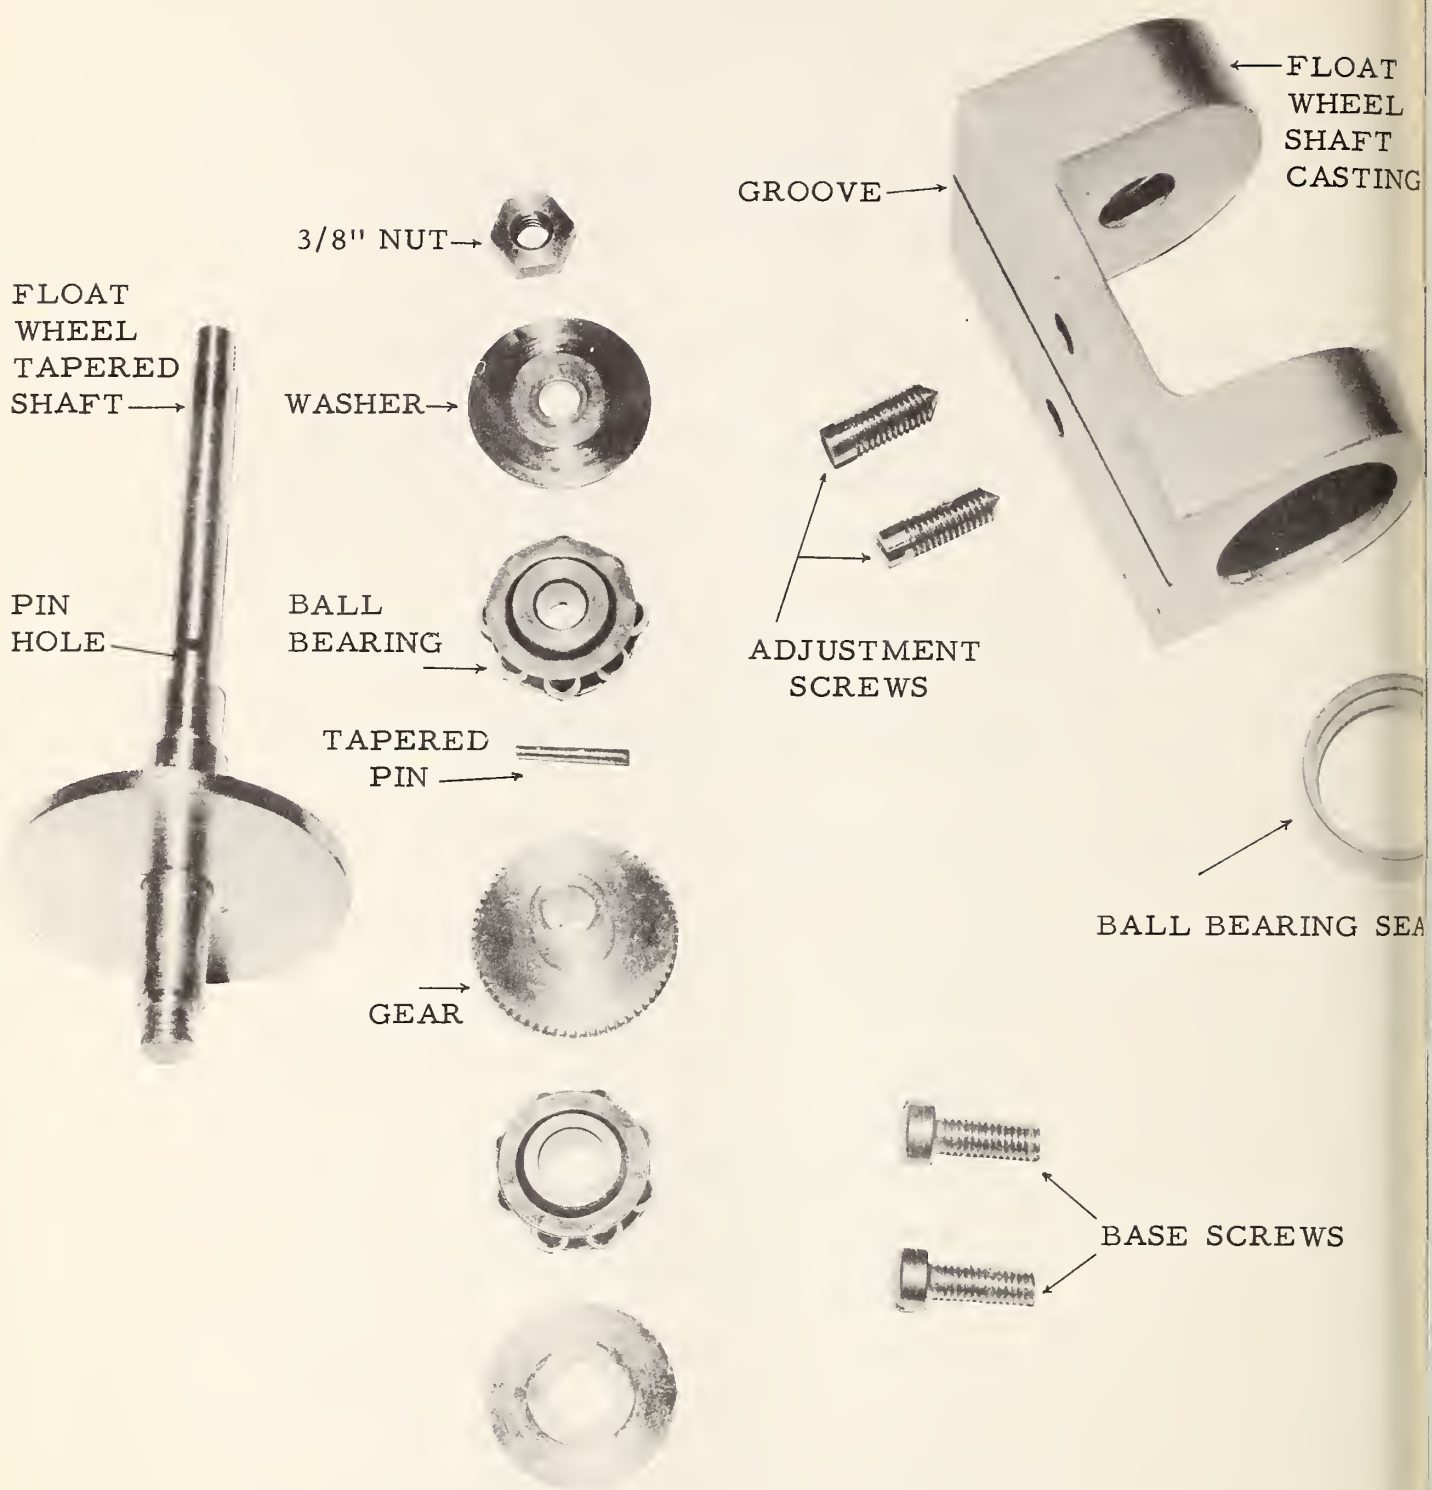

Figure 3. --Type A. Float wheel shaft, detail of parts.
18. Float wheel shaft (figs. 3 and 4):